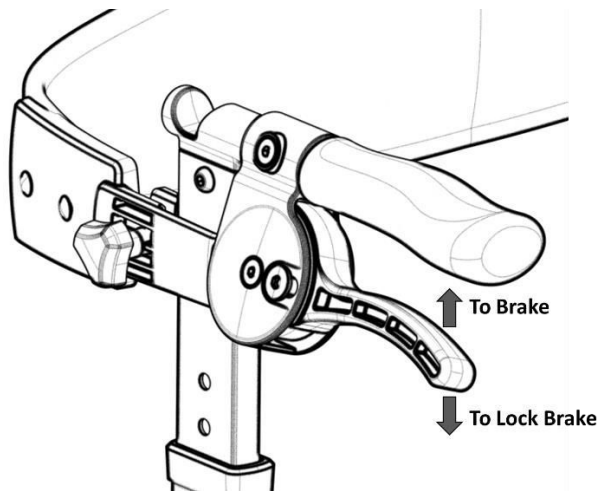

FIGURE 4
4. Pull brake lever up for normal operation; push lever down to lock brake as shown in **FIGURE 4**. **WARNING: Brakes**